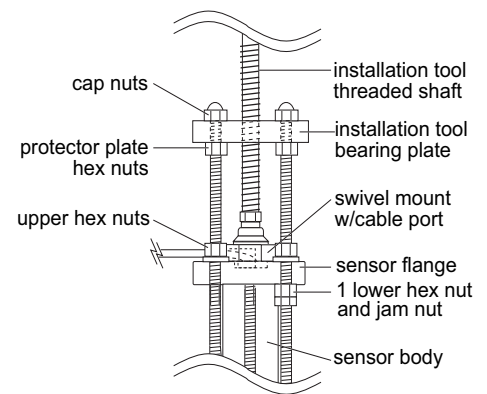

Fig. 18
- E. Wearing safety face protection, turn the installation tool shaft **counterclockwise** to withdraw sensor until the sensor flange contacts the upper hex nuts. (Fig. 18)